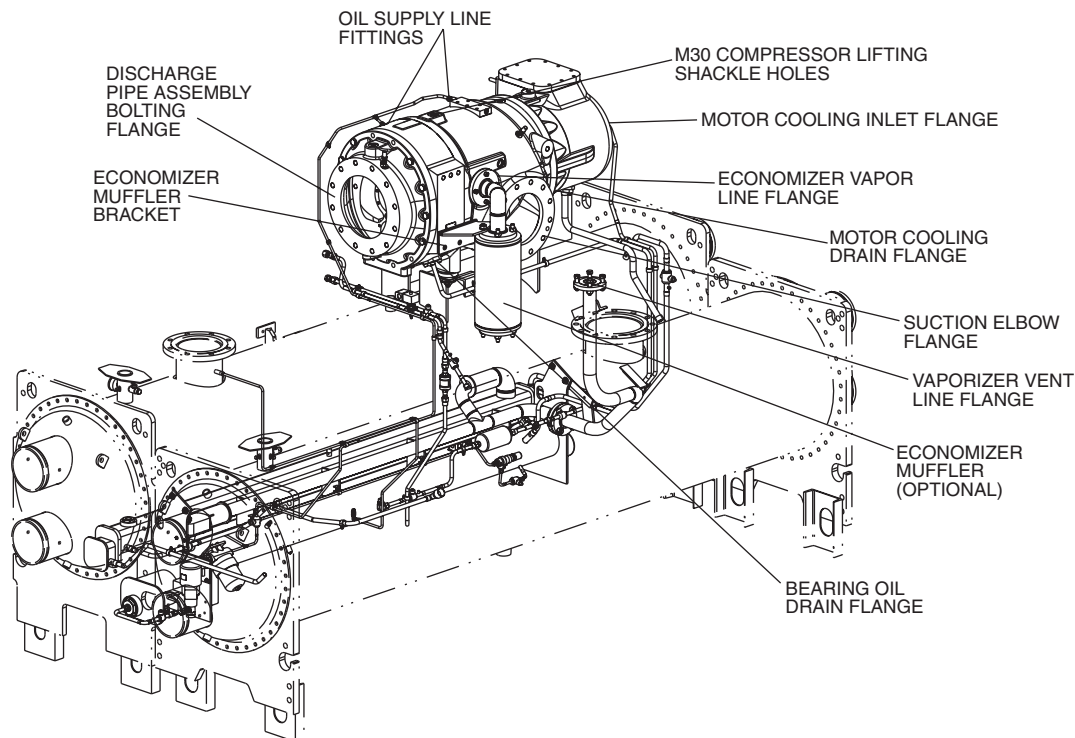

Fig. 23 — Compressor Removal
1. Disconnect the oil supply line in two places (Fig. 23). Cap the oil lines and fittings.
2. Disconnect the motor cooling inlet flange, the motor cooling drain flange, optional economizer vapor line flange, and bearing oil drain flange (Fig. 23). Remove the economizer muffler bracket.
5. Carefully remove the perforated insulation cutouts that cover the compressor lifting points. See Fig. 23. Replace the lifting shackle thread protector after the compressor is re-installed to prevent insulation adhesive from fouling the threads.
6. Rig the compressor with lifting eyelets installed in the two M30 threaded holes provided in the top of the compressor housing (Fig. 23). Use only M30 forged eye bolts or M30 hoist rings with a sufficient working load limit to safely lift the compressor. The rubber vibration isolators may pull out of the compressor mounting bracket when the compressor is lifted off of the condenser. Applying leak detection soap solution to the outside of the vibration isolators will make it easier to press the isolators back into position.